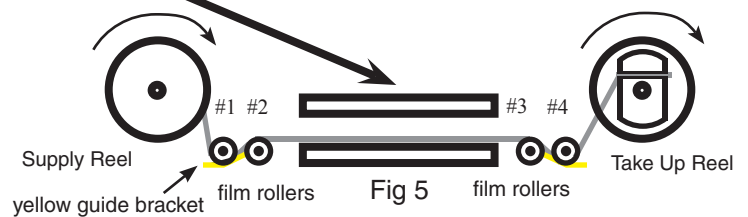

Fig 5
1. Install the Take-up Reel on the left side Spindle Fig 5.
3. Thread the FILM as shown in Fig 5.